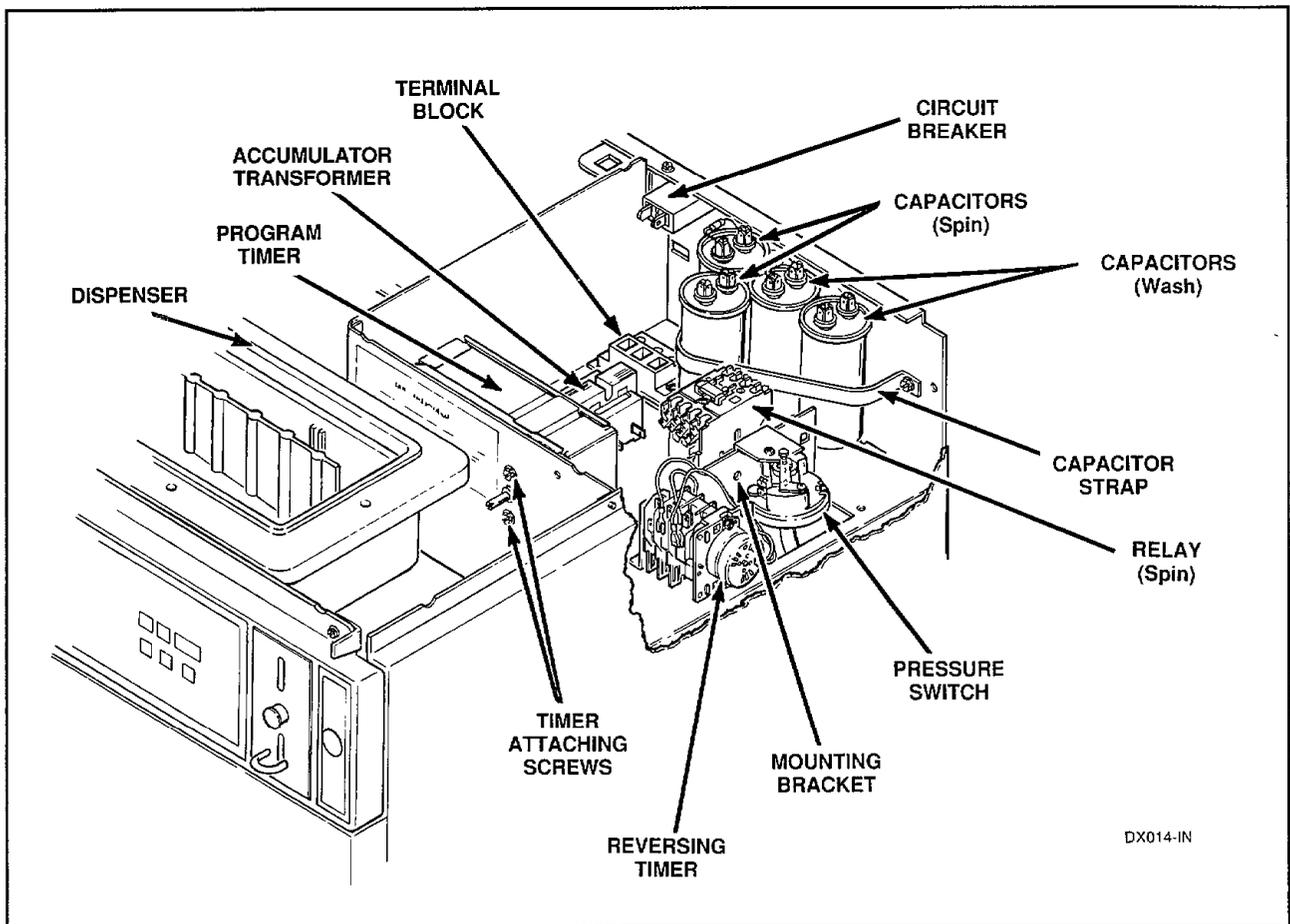

Figure 15
- f. Remove two screws and washers holding timer to control tray, *Figure 15*.
**NOTE: When installing timer, be sure timer is installed correctly and is mounted firmly to the control tray, *Figure 15*.**
- e. Remove two screws and lockwashers holding timer to mounting brackets (located inside control tray), *Figure 15*.
- e. Remove nut holding circuit breaker to rear cross channel, *Figure 15*.
- e. Remove Phillips head screw holding pressure switch to mounting bracket on control tray, *Figure 15*.
- f. Remove two screws holding relay to control tray, *Figure 15*.
- e. Remove two screws holding transformer to control tray, *Figure 15*.
- f. Remove screw holding capacitor strap to rear cross channel, *Figure 15*.
- f. Loosen hose clamp and remove hose from underside of dispenser and remove dispenser, *Figure 15*.